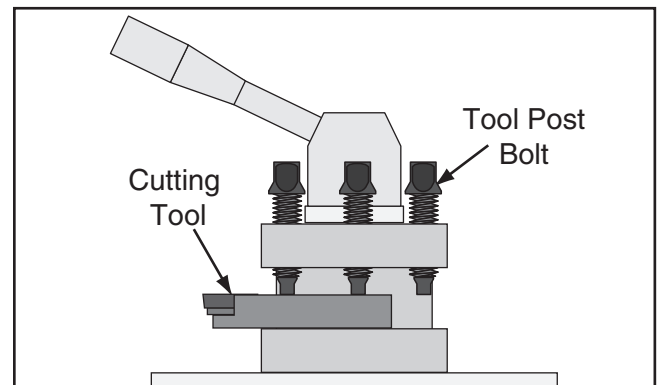

Figure 65. Example of tool mounted in tool post.
1. Adjust the tool post bolts so that the cutting tool can fit underneath them (see **Figure 65** below).